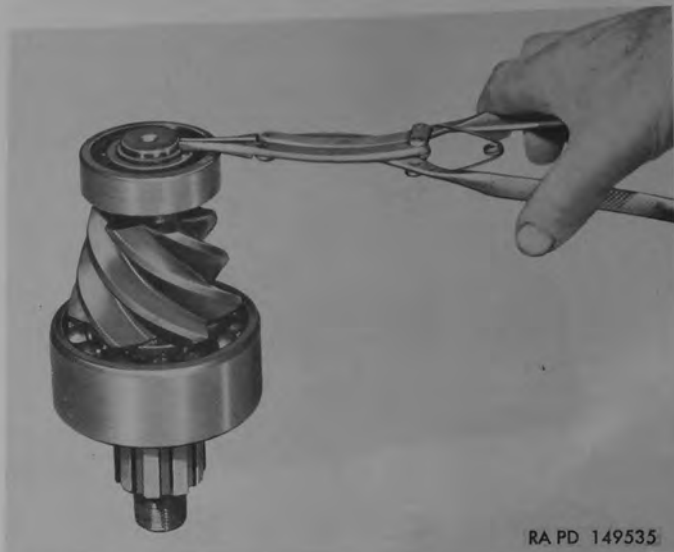
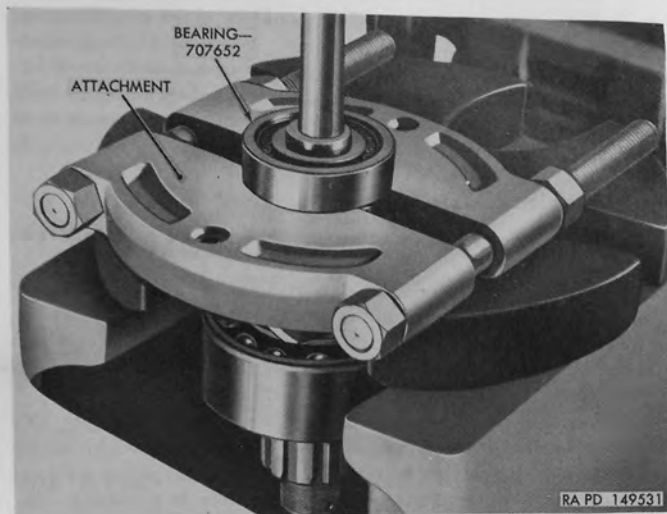

Figure 136. Removal or installation of pinion inner bearing lock with snap ring pliers.
Figure 137. Removal of drive pinion inner bearing with attachment 41-A-345-328 (part of puller set 41-P-2905-60).
- (1) *Removal of pinion inner bearing.*—Use suitable snap ring pliers in manner illustrated in figure 136 to remove pinion inner bearing lock (EE). Install attachment 41-A-345-328 (part of puller 41-P-2905-60) onto drive pinion; then place in arbor press to press pinion out of bearing (fig. 137).
Use snap ring pliers (fig. 136) to spread pinion inner bearing lock (EE); then install lock in groove, being sure that lock is fully seated.
- (2) *Installation of pinion outer bearing.*—Position drive pinion (GG) in arbor press and locate bearing (HH) on pinion.